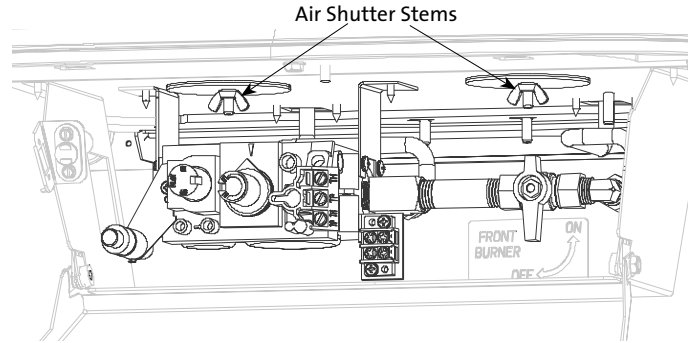

Figure 8.7.
1. Reach under the stove and loosen the Air Shutter wing nuts. The RIGHT shutter controls the REAR Burner. The LEFT shutter controls the FRONT Burner. See fig. 8.7. Slide the wing nut stems forward toward yourself to open the air shutters and back to provide less air. Before making any adjustments, start at the factory shutter settings: